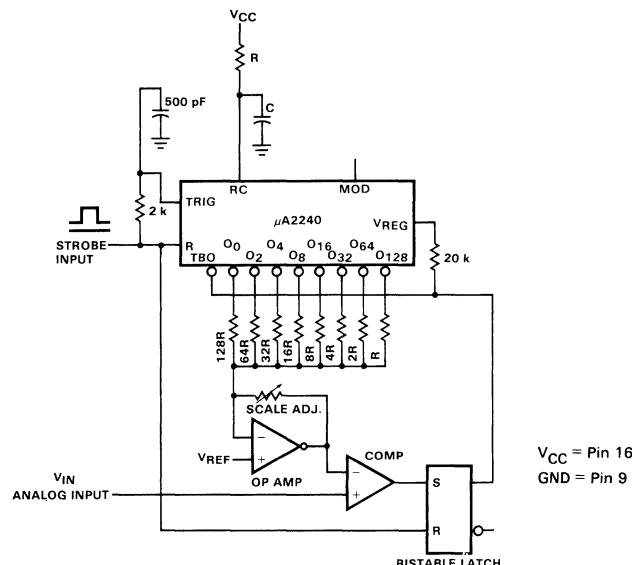

Fig. 16. Digital Sample and Hold Circuit
Figure 16 shows a digital sample and hold circuit using the μA2240. Circuit operation is similar to the staircase generator described in the previous section. When a strobe input is applied, the RC low-pass network between the Reset and the Trigger inputs resets the timer, then triggers it. This strobe input also sets the output of the bistable latch to a HIGH state and activates the counter.
*Figure 17* shows a simple 8-bit A/D converter system using the μA2240. Circuit operation is very similar to that of the digital sample and hold system of *Figure 16*. In the case of A/D conversion, the digital output is obtained in parallel format from the binary-counter outputs with the output at pin 8 corresponding to the most significant bit (MSB). Recycle time is  $\approx 6$  ms.